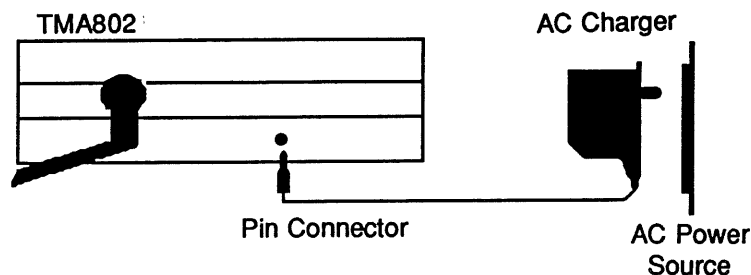

Figure 3-1. Battery Charger Connections.
The battery is easily recharged by: (1) turning off the TMA802, (2) plugging the AC charger (standard accessory) into an AC power source, then (3) plugging the AC charger into the pin connector on the left side of the TMA802 (see Figure 3-1). To fully recharge the battery, allow it to recharge overnight.